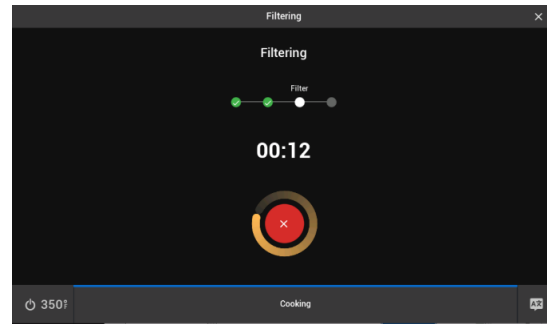

**Figure 107 - Oil Quality Collection**
**Oil Quality Collection** if FDF enabled **Figure 107**.